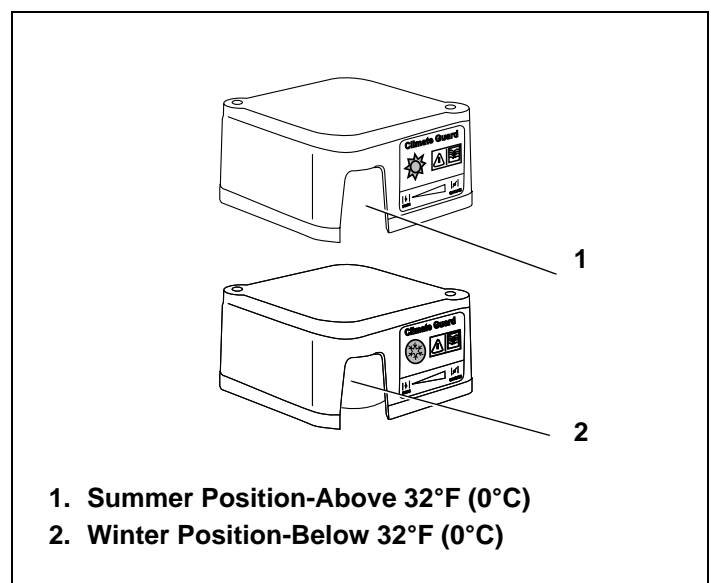

Figure 34. Air Cleaner Cover Positions
3. Rotate air cleaner cover in "WINTER" position shown. See Figure 34.
3. Rotate air cleaner cover in "SUMMER" position shown. See Figure 34.